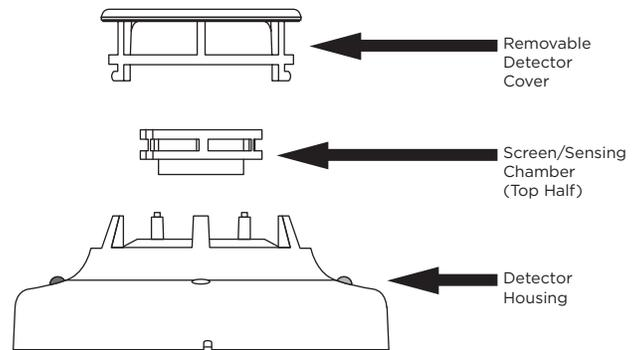

Figure 7: 2W-BLX/2WT-BLX Exploded View
3. Remove the top half of the screen/sensing chamber by lifting straight up (See Figure 7.)